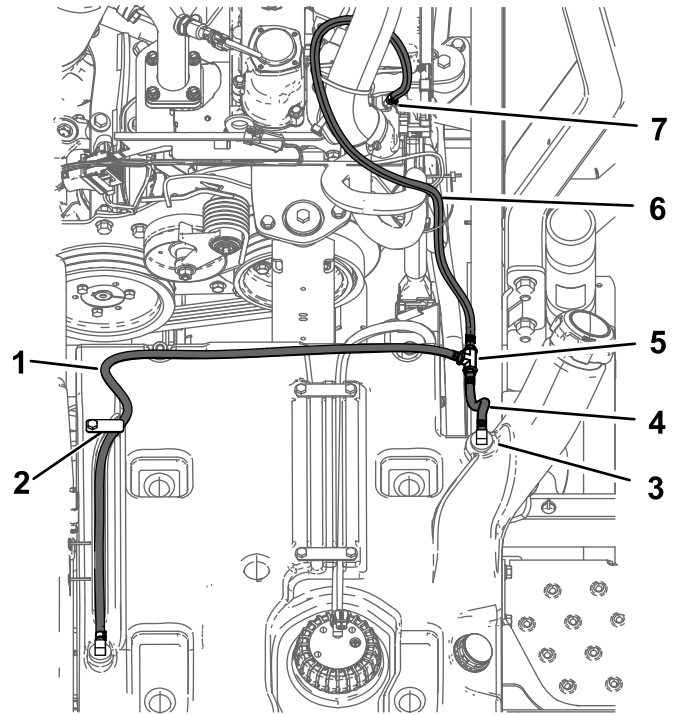

**Figure 3**
3. Remove and retain the 2 front seat bolts and washers, unplug the wire harness under the seat, and remove the seat (Figure 3).